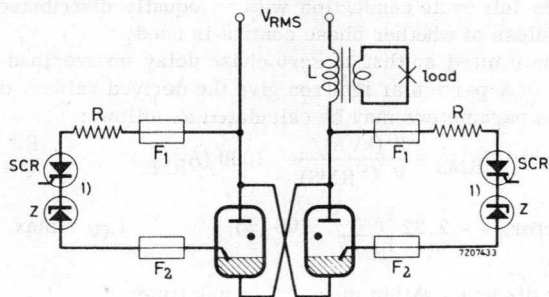
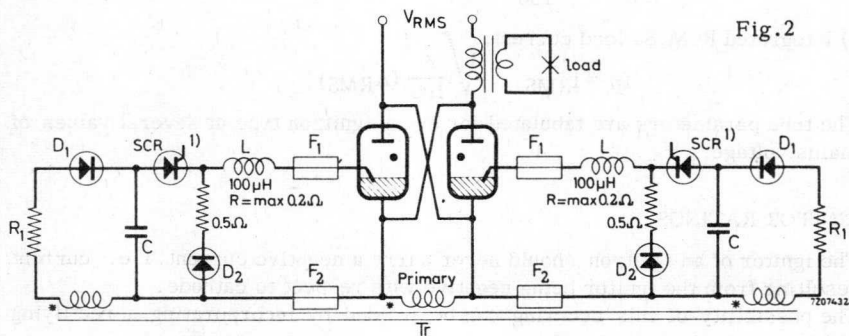

Fig.1
Fig.2
Typical examples are given in fig.1 (self excitation) and fig.2 (separate excitation).
A. Anode excitation (fig.1)
B. Separate excitation (fig. 2)